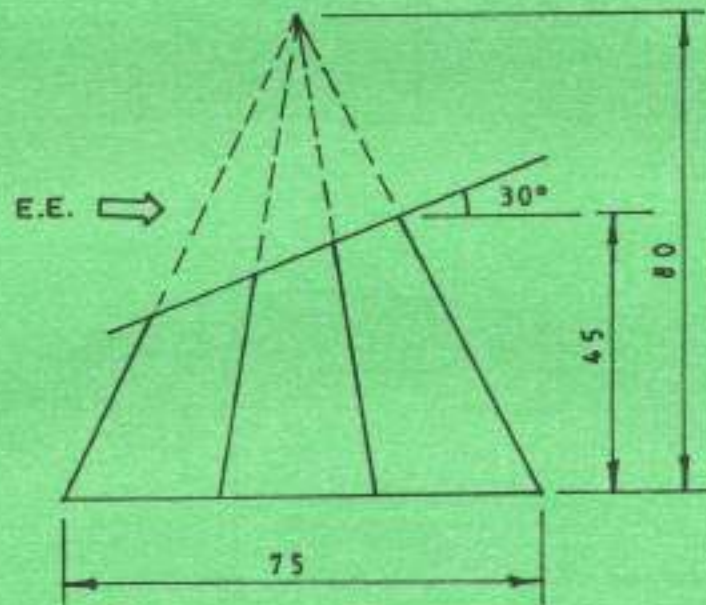

Fig. 3
3. Figure 3 shows a truncated hexagonal pyramid. Using first angle projection draw the following: